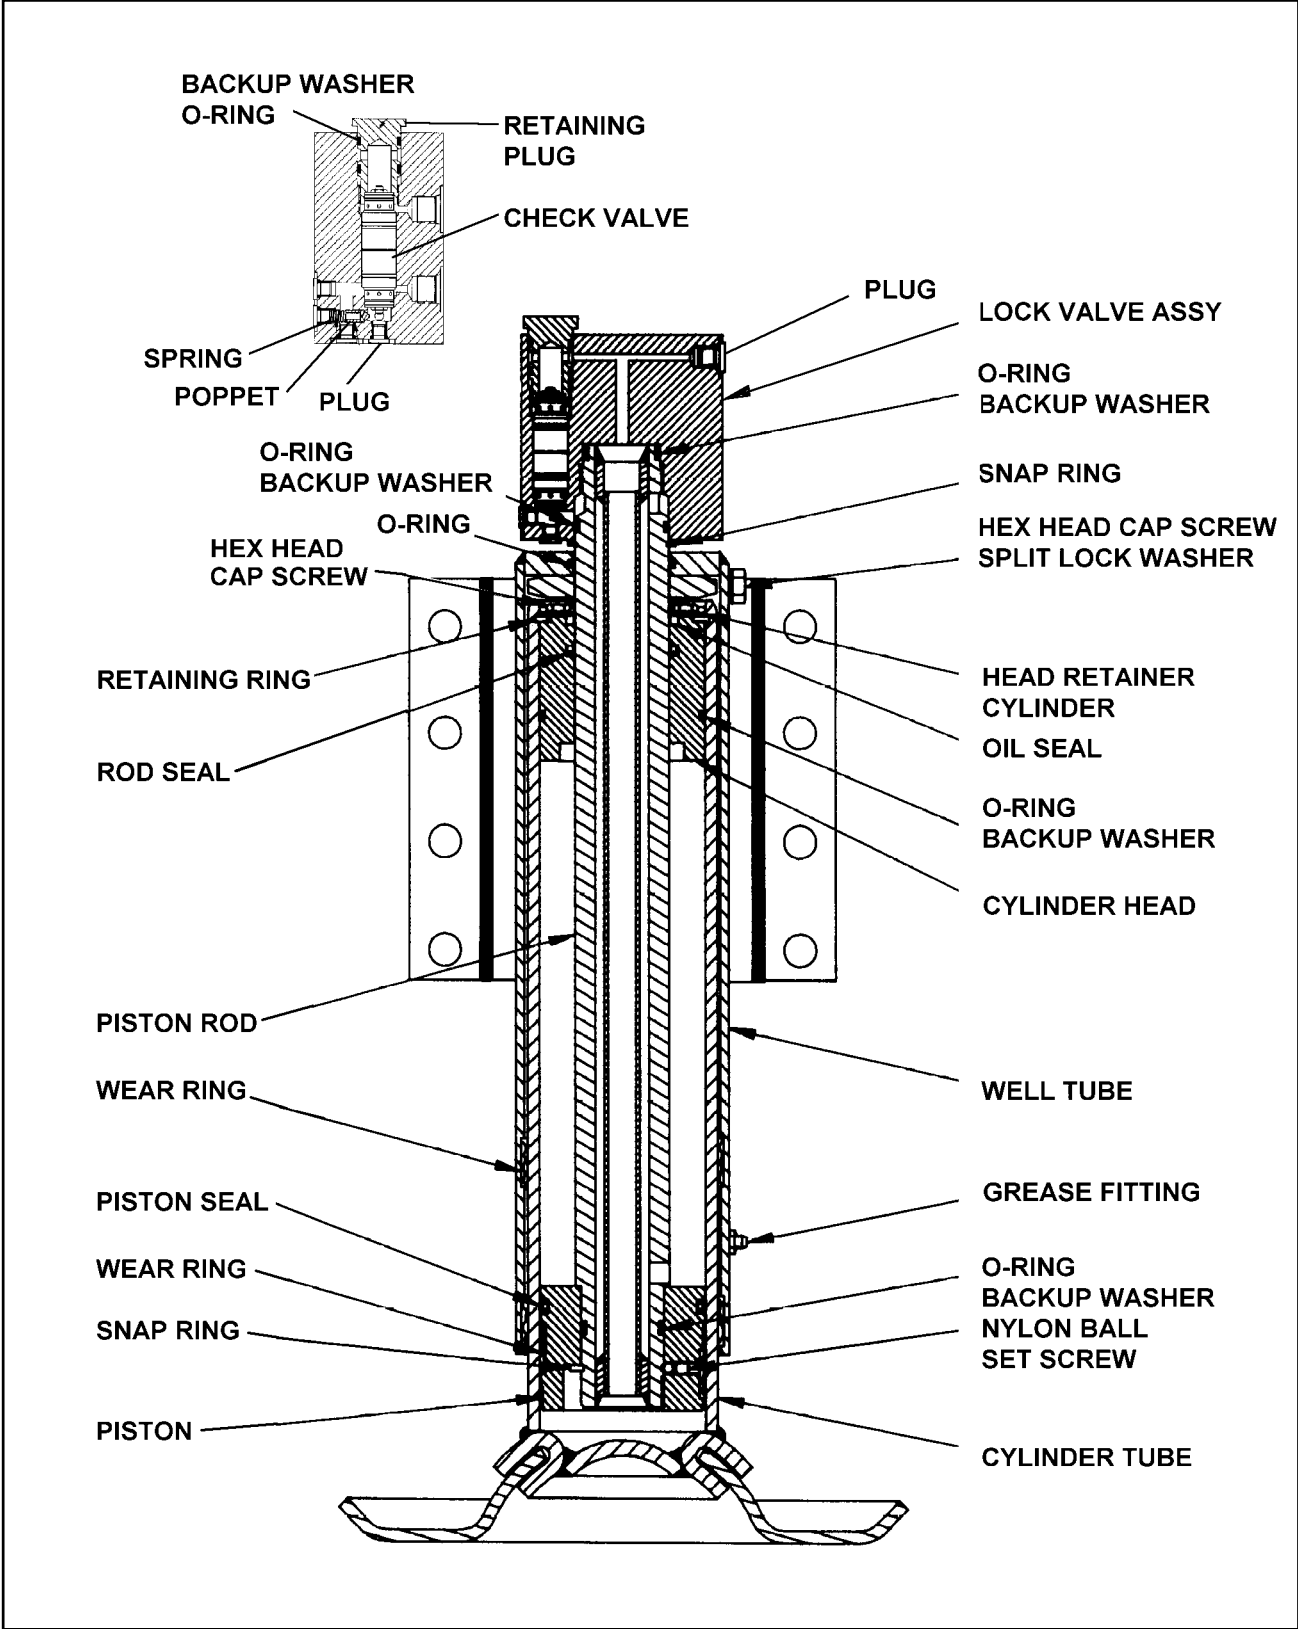

Figure 4-20 Dock Leveler Leg Assembly
- 4-14.3 Lock Valve (See Figure 4-20)**
#### 4-14.4 Leg (See Figure 4-20)